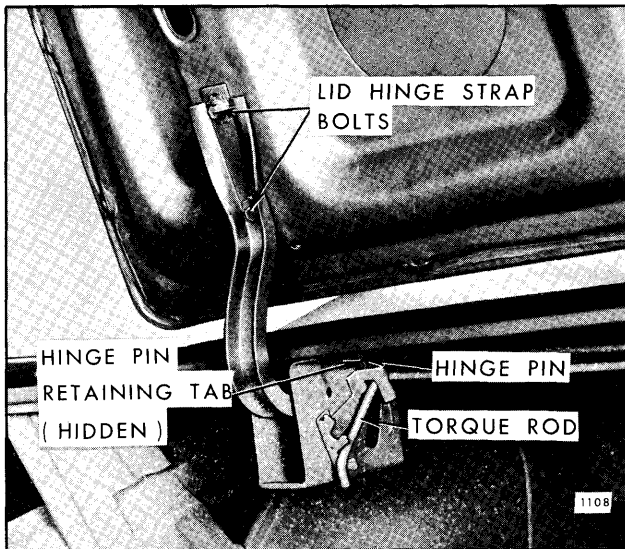
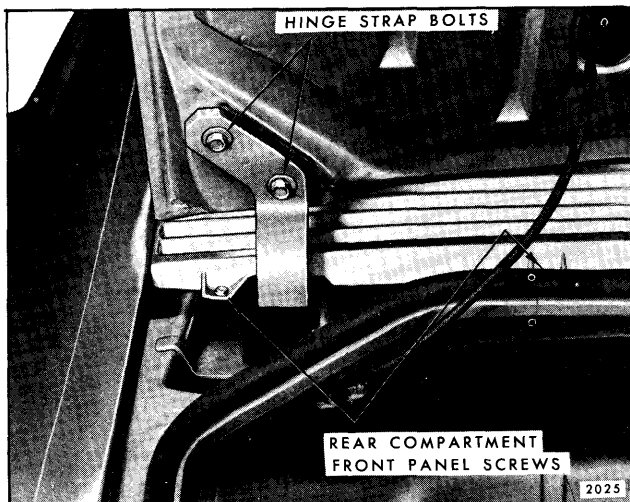
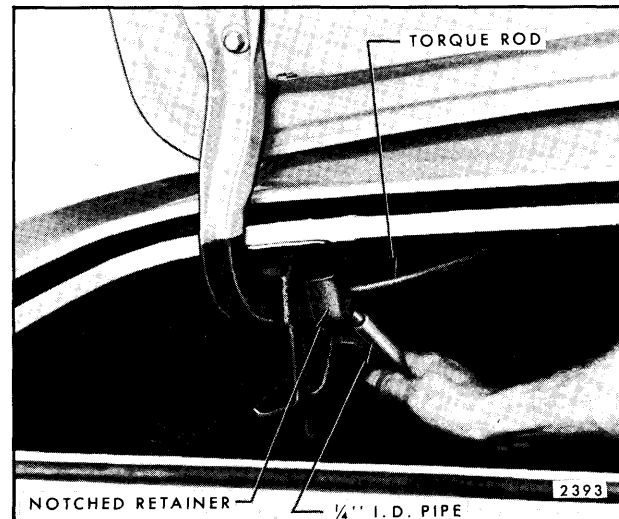

Fig. 8-1—Rear Compartment Lid Attachments - All Styles Except "F" and Oldsmobile, & Buick "E" Styles
Fig. 8-2—Rear Compartment Lid Attachments - Oldsmobile and Buick "E" Styles
Fig. 8-3—Rear Compartment Lid Attachments - All "F" Styles
5. With the aid of a helper, remove hinge strap to lid attaching bolts and remove lid. (Fig. 8-1 is typical for A, B, C, 69347 "E", and "X" styles; Fig. 8-2 for 39687 and 49487 "E" styles; and Fig. 8-3 for "F" styles).